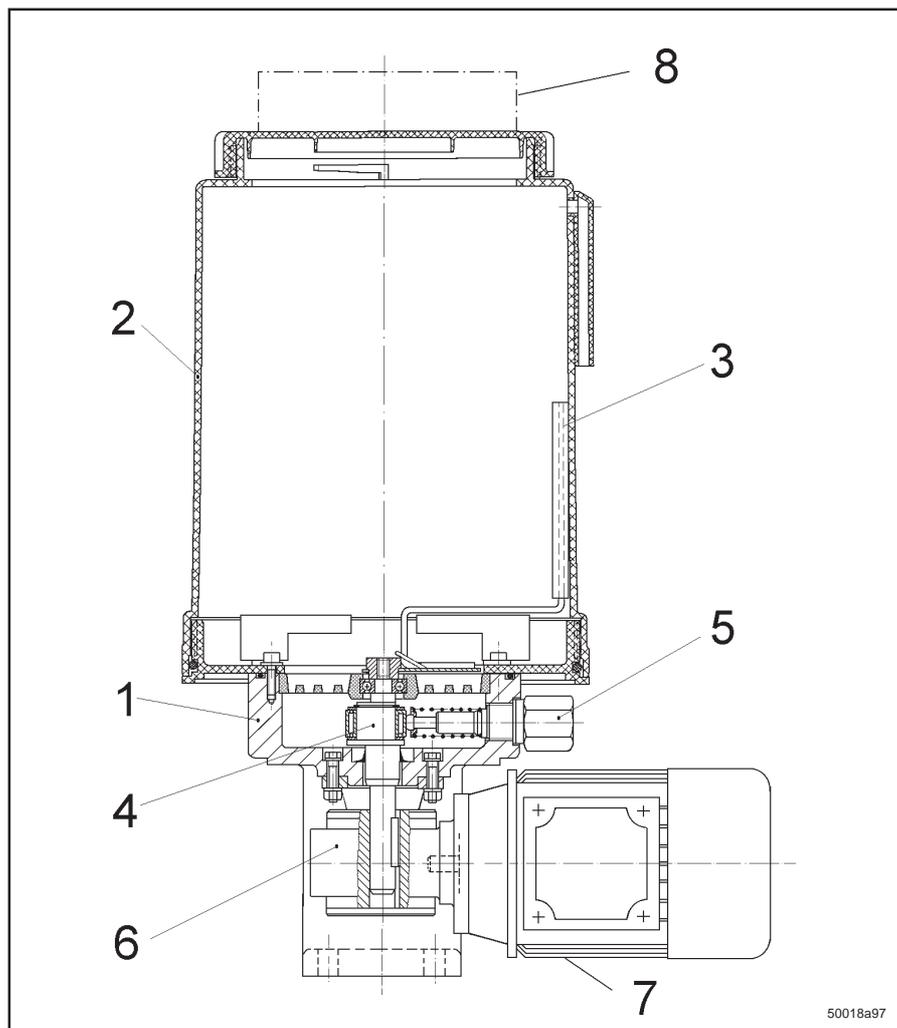

Fig. 1 - Sectional drawing of the pump 205
- The pump essentially consists of the main components shown in Fig. 1.
- The worm gear (6) reduces the speed of the driver motor to the speed of the eccentric shaft.
- The eccentric shaft (4) causes the piston lodged in the pump element (5) to move to and fro, with the result that the lubricant is sucked and dispensed to the outlet via a check valve.
- The eccentric shaft simultaneously drives the stirring paddle (3). The rotating movement of the stirring paddle makes sure that the lubricant is homogenized and directed into the suction boreholes of the pump element.